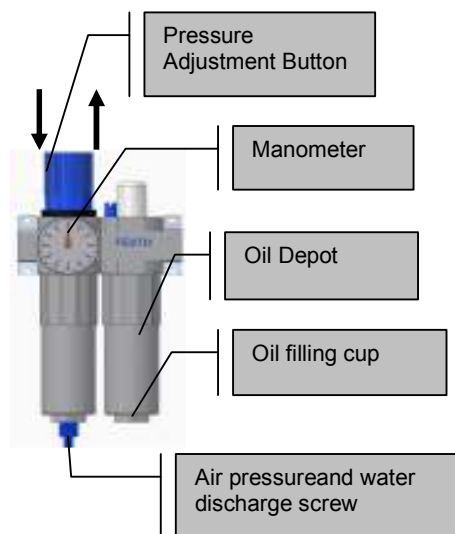

FIGURE 12
- Pull the adjustment button of the oil unit upwards. (see Figure 12)
- Once you read 7-8 Bar on the manometer, push the adjustment button of the conditioner down and lock it in that position. (See Figure 12)
- The conditioner unit collects the water within the air system in a receptacle in order to prevent damage to the pneumatic system components. Discharge this water periodically (at the end of the working day) by pressing or opening the button under the conditioner. (See Figure 12)